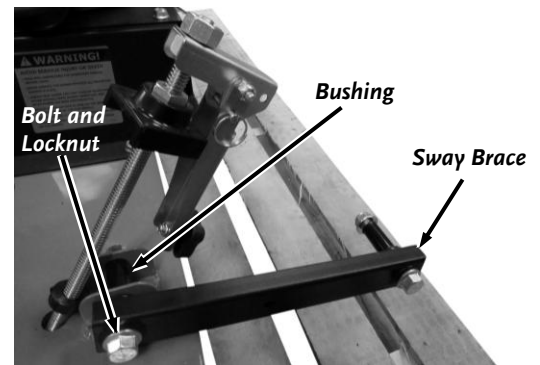

Figure 5
1. Leave the Deck Bushings in place as you remove the Bolt and Locknut (by hand) that secures the two side Sway Braces to the Deck (**Figure 5**).